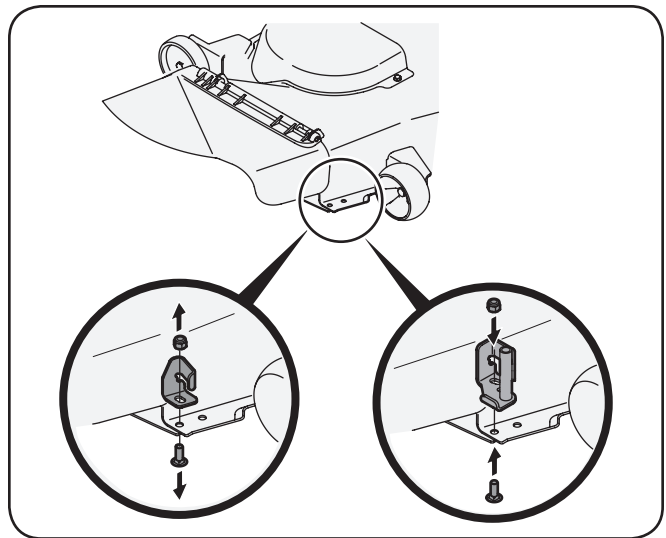

Figure 4-18
1. Remove the carriage bolt and lock nut holding the chute stop to the deck. See the left Inset of Fig. 4-18. Save the hardware.
2. Replace with new chute stop bracket, from the bagger kit, at the same position on the deck. See the right Inset of Fig. 4-18. Secure with the hardware removed earlier.